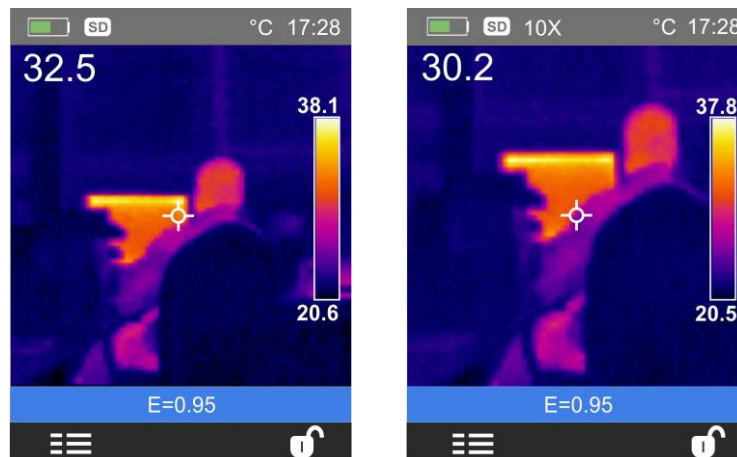

Fig. 6: Setting image zoom
1. Frame the object to be tested (see Fig. 6 – Left side) and press the key  as many times as you want to zoom the image. Each pressing increases the size of the image by 10% with respect to the original. The instrument show the zoom value on the top side of the display (see Fig. 6 – Right side relevant to x10 zoom). Possible options are: **1x ÷ 32x**